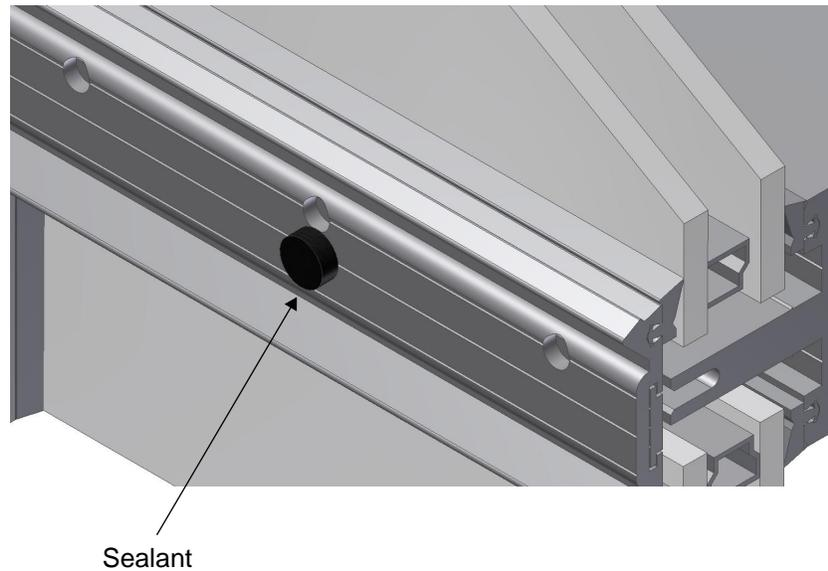

Figure 26: Seal the head of the fastener holding the horizontal pressure plate.
- Seal the head of the fastener holding the horizontal pressure plate, as shown in Figure 26.